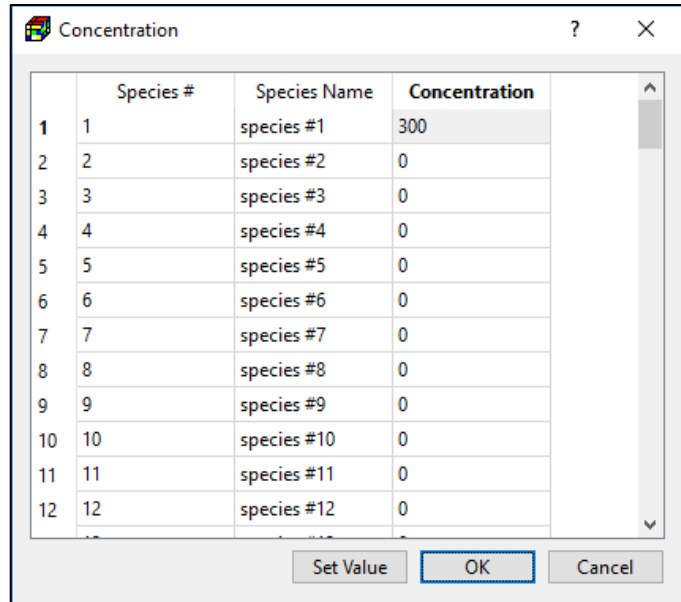

Figure 42. The Concentration dialog box
Click the **Edit** button to open the Concentration dialog box (Figure 42) that allows you to specify the return flow concentration of up to 100 species. You can either enter individual concentration values to the table directly or click the *Set Value* button to enter a uniform value for all species. The entered concentration values may be used by the SSM Package of MT3D or SEAWAT.
- **Concentration (MT3D/SEAWAT) [ML⁻³]:** Click the **Edit** button to open a Concentration dialog box (Figure 42) that allows you to specify the return flow concentration of up to 100 species to the current vertex.
- **Concentration (MT3D/SEAWAT) [ML⁻³]:** Click the **Edit** button to open a Concentration dialog box (Figure 42) that allows you to specify the return flow concentration of up to 100 species to the current polygon.
- **Concentration (MT3D/SEAWAT) [ML⁻³]:** Click the Edit button to open a Concentration dialog box (Figure 42) that allows you to specify the source water concentration of up to 100 species to the current FHB1 instance. The entered concentration values may be used by the SSM Package of MT3D or SEAWAT.